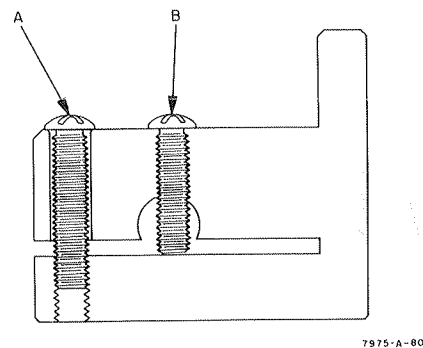

Figure 6-8. Azimuth Adjusting Block
- (1) Remove cap from head guide nearest the driving capstan. Take care not to drop ceramic washer and rubber O-ring.
- (2) Place transport in forward (reverse) drive.
- (3) While holding down the spring-loaded lower ceramic washer, observe the relative position of the outer edge of the tape and the upper surface of the head guide. The tape should track approximately 0.005 inch above the guide.
- (4) To determine if actuator is in need of azimuth adjustment, use Azimuth Adjustment Gauge, Hewlett-Packard part number 5020-4949. Place gauge on guide body with the 0.010-inch step nearest the tape path and slowly approach the tape edge with the tip of the gauge. The tape must not be touched by the tip. This assures that the tape is not tracking more than 0.010 inch above the guide surface.
- (5) Visually observe the tape to see that there is some tape visible above the guide. If the amount of tape is very small, a corner of the gauge with no step may be used. When this is brought into the tape path, the tape must be deflected, indicating that the tape was definitely tracking above the guide.
- (6) The 0.005-inch step in the gauge may be used to measure the 0.005-inch nominal distance when re-adjustment of the azimuth is made. If re-adjustment is required, proceed with steps (7) through (11).
- (7) Loosen both azimuth adjusting screws and check tape position to determine if tape should be moved up or down. Referring to figure 6-8, screw A will move the tape down towards the transport; screw B will bring the tape out towards the operator.
- (8) While holding spring-loaded washer down, adjust screws A and/or B as